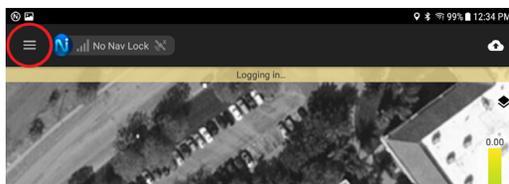

Figure 2-10. Three Bar Icon
2. Touch the three bar icon as shown in Figure 2-10.